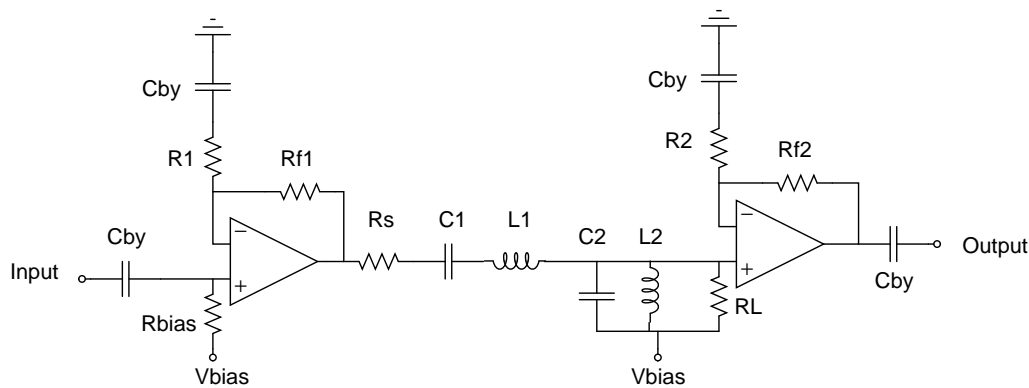

Figure 5: Adding your second stage on after the filter
- **Soldering Tips:** When soldering the second op-amp onto your board, note that you will now need to add the correct R_L to the output of the passive filter. However, you can remove the BFC that you used in the previous section. Also, you should implement R_{f2} with a potentiometer so that you can tune the gain as necessary. Please refer to Figure 5 for further clarification.